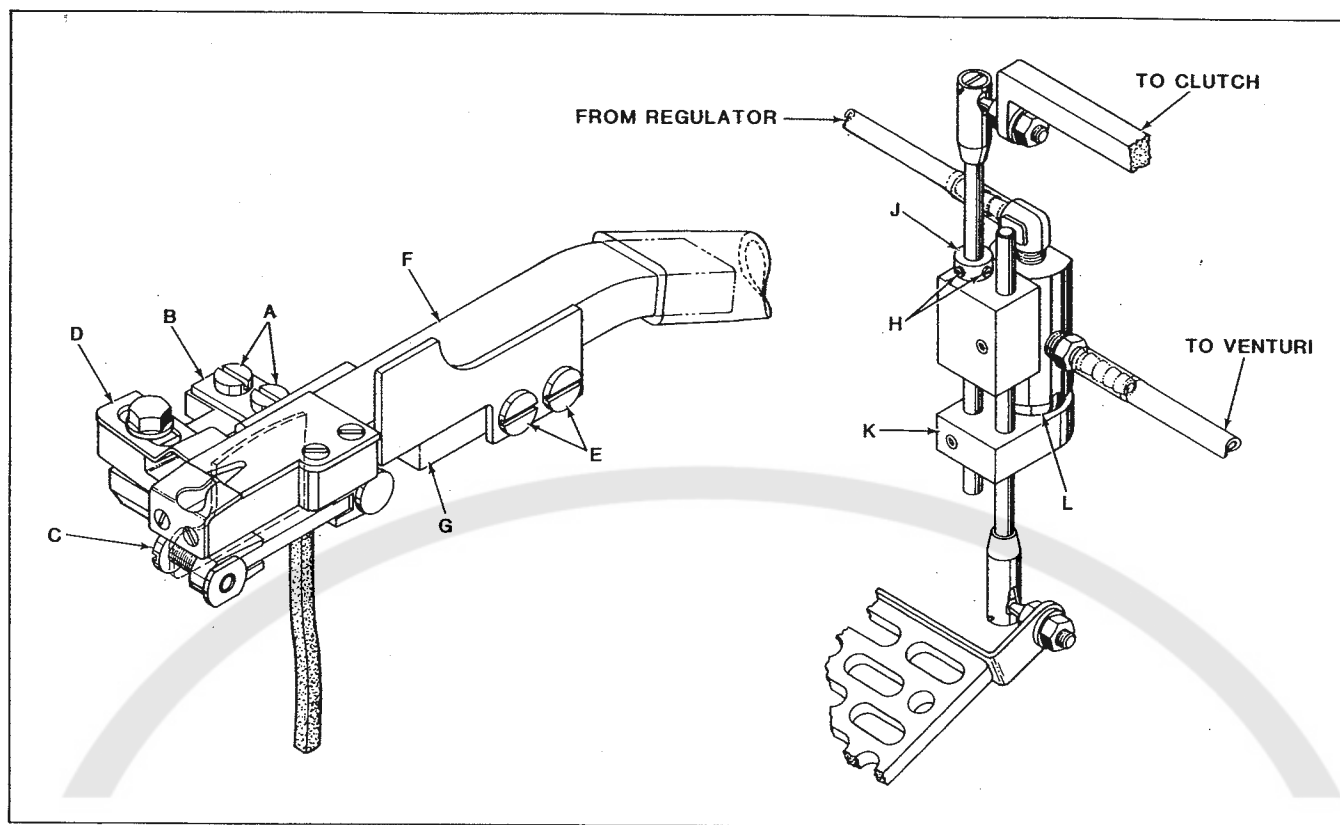
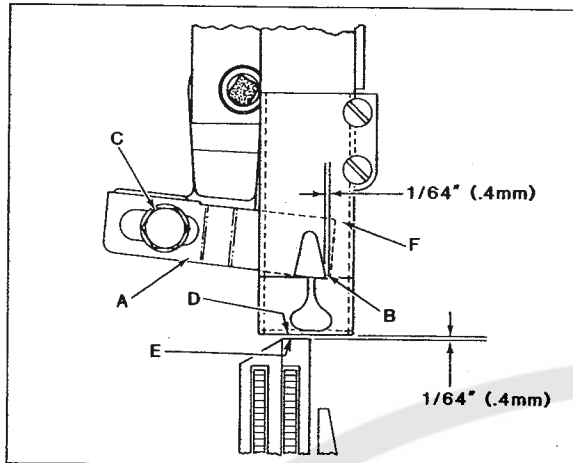

Fig. 26
Fig. 26A
2. Remove "AIR-KLIPP" assembly from the machine by removing screws (A, Fig. 26), washer plate (B) and screw (C).
When the movable knife (A, Fig. 26A) travels from extreme left to the right; its cutting edge must be even with the cutting edge of stationary knife-Ref. Point B.
3. Re-assemble "AIR-KLIPP" assembly to the machine, securing knife driving link with screw (C, Fig. 26) and base with washer plate (B) and screws (A).
With "AIR-KLIPP" assembly in position, temporarily replace throat plate and check for a 1/64 inch (.4mm) clearance between front edge of air tube (D, Fig. 26A) and rear edge of throat plate (E), as shown. If a clearance adjustment is necessary, loosen screws (E, Fig. 26) and adjust the air tube (F) front to back on "AIR-KLIPP" base as required. Re-adjust movable knife pressure as outlined in STEP 2, then tighten screws (E).
With main stitch length set and movable knife (A, Fig. 26A) positioned to its extreme right; loosen screw (C) and adjust movable knife left to right as required to extend no less than 1/64 inch, (.4mm) beyond the cutting edge of stationary knife as in Fig. 26A. Clearance must be maintained between the moving knife and the inner wall of air tube - Ref. Point F. Hold knife in position and tighten screw (C).
4. To adjust the air valve system, loosen screws (H, Fig. 26) and set collar (J) to permit actuator block (K) to just contact button of air valve - Ref. Point L, when button is fully extended, then tighten screws (H). When treadle is pressed to start sewing, the air valve must open before the clutch is engaged.